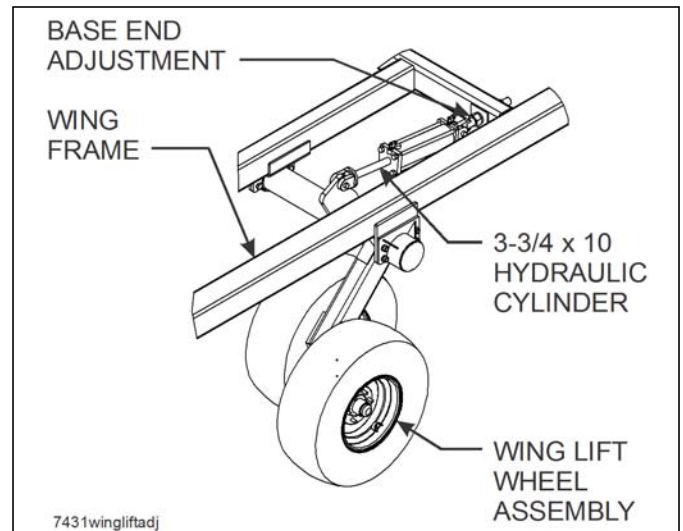

Figure 4-10: Wing Lift Adjustment
- f. Adjusting the anchor at the base end of each wing lift cylinder sets wing frame height **(See Figure 4-10.)**